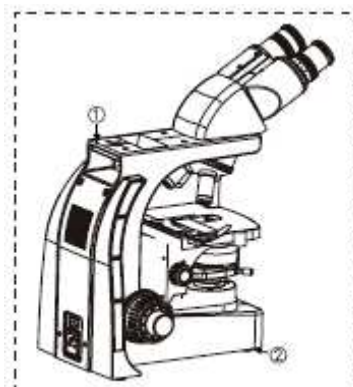

Fig.1
4.1 When moving the microscope, remove the observation tube, then carefully carry the microscope frame by the base (front edge)(^② in Fig.1) and the
grasping part(^① in Fig.1) in the upper rear.